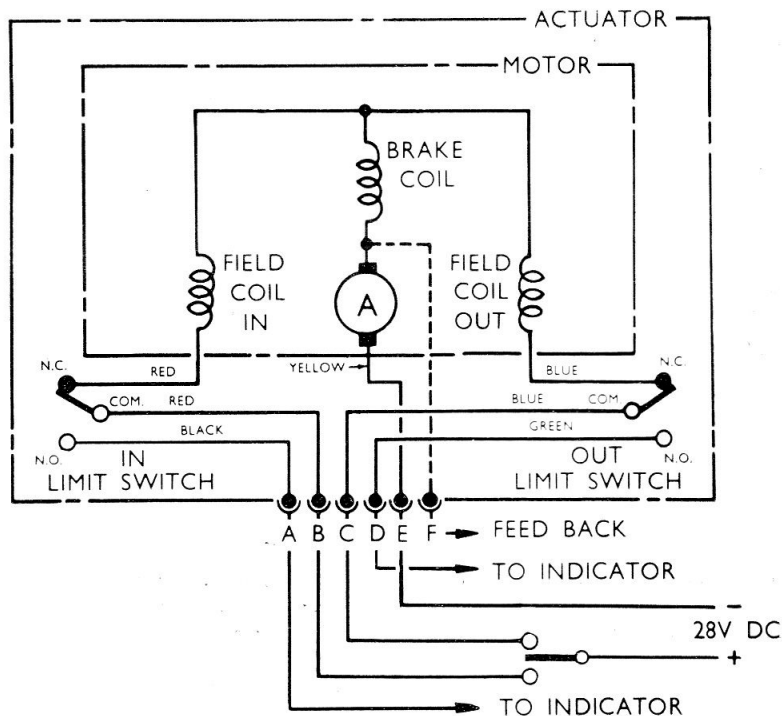

Fig. 4. Typical circuit diagram
15. The internal connections and a typical external circuit are shown in Fig. 4.